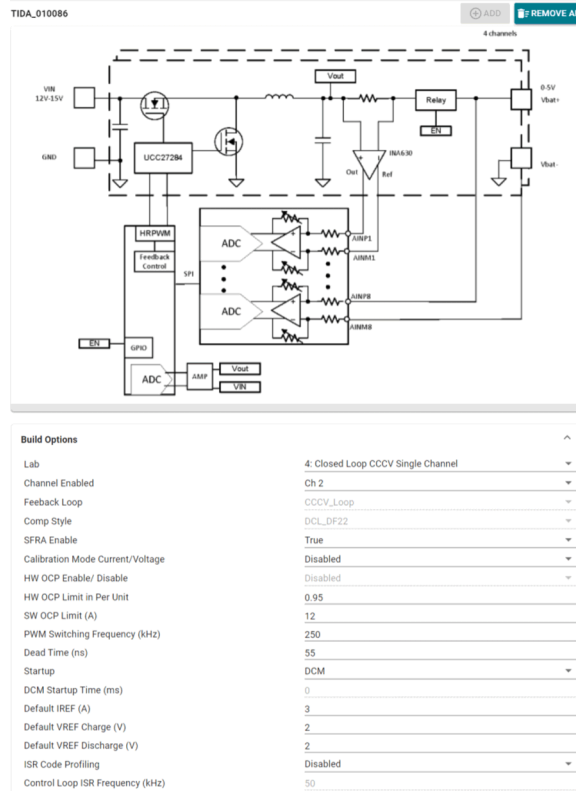

Figure 3-2. powerSUITE GUI for the Design
4. This action imports the project into the workspace environment, and a configuration page with a GUI similar to Figure 3-2 appears.